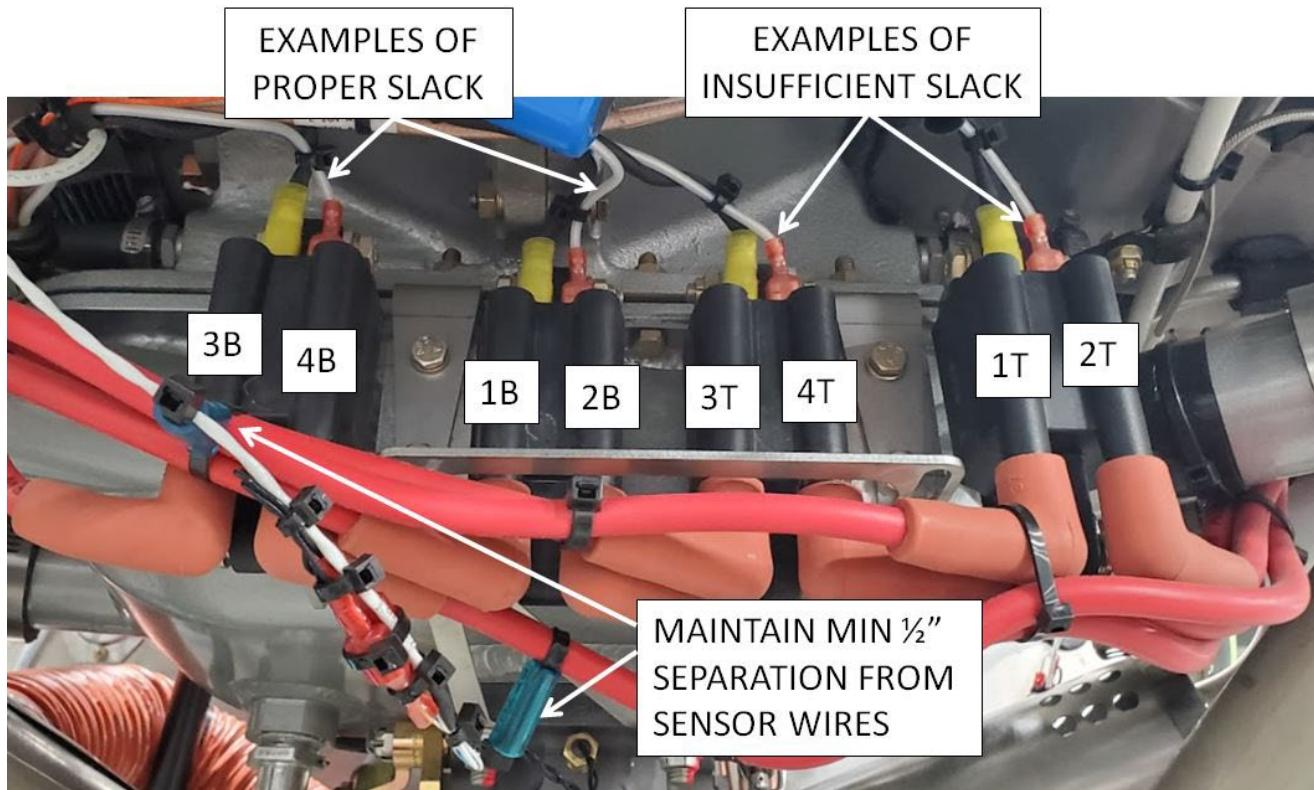

FIGURE 5 – IGNITION COIL CONNECTIONS
13. Install the spark plug wires and corresponding ignition wires onto coils as shown in Figure 5. Note that the two ignition wires and the two spark plug wires connected to each coil are not polarity-sensitive. Ensure plug wires click and seat fully onto studs. Ensure spade connectors fit tightly onto the coil, and ignition wires have proper slack, referring to SK-SB010 for more detail. Should it be necessary to replace the ignition wires to achieve proper slack, wire and heat shrink part numbers are shown in the parts list. Spark plug wire part numbers are also provided in the parts list.